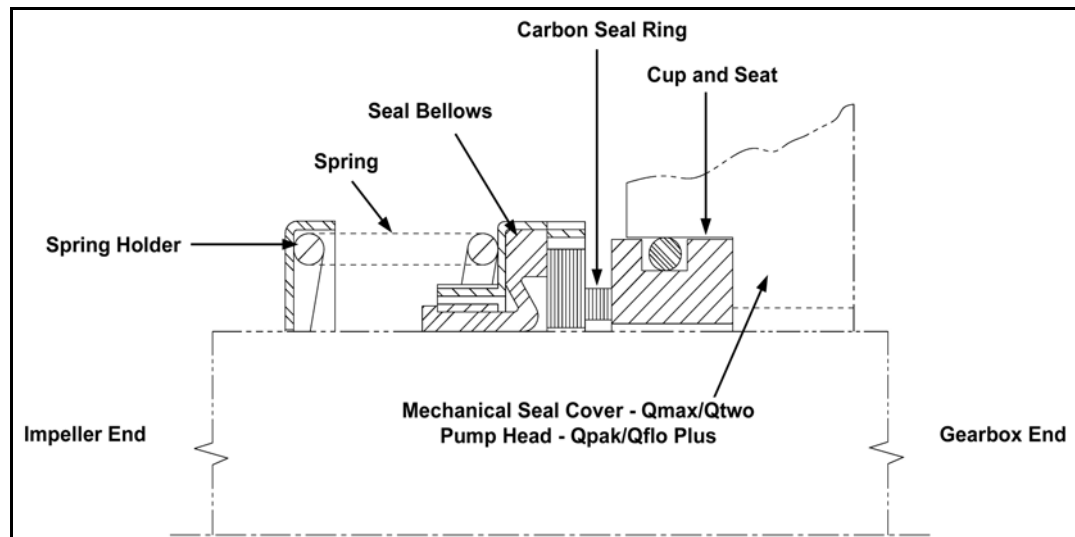

**Figure 8-7: Qflo / Qflo-Plus / Qpak Mechanical Seal Assembly Overview**
Review preceding sections “Before You Begin...,” on page 103 and “Cleaning and Inspection Guidelines,” on page 106. Also see Figure 8-7: “Qflo / Qflo-Plus / Qpak Mechanical Seal Assembly Overview” on page 144.
2. Remove the twelve 7/16-14 UNC screws and remove the bearing housing from the pump body. (See Figure 8-7: “Qflo / Qflo-Plus / Qpak Mechanical Seal Assembly Overview” on page 144.)